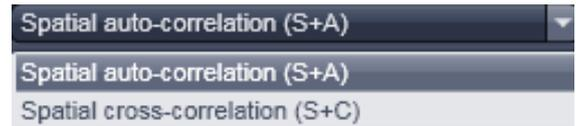

Fig. 5-83 Correlation pull down menu
- The correlation to be computed can be selected from the **Correlation** pull down menu (Fig. 5-83). For one channel recordings, only **Spatial auto-correlation (S+A)** is available, for a two channel recording in addition **Spatial cross-correlation (S+C)**.